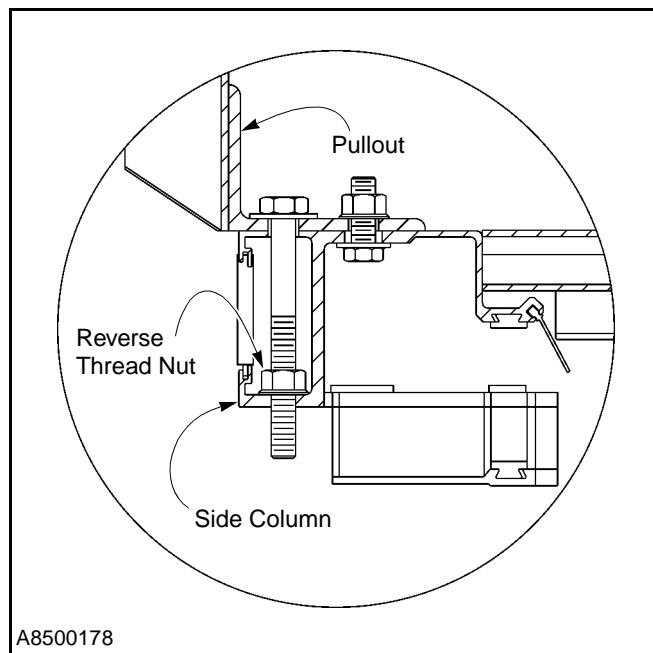

Figure 15
- Continue threading the nut until the screw is through the side column, with the flange on the nut flush against the column. (See Figure 15.)